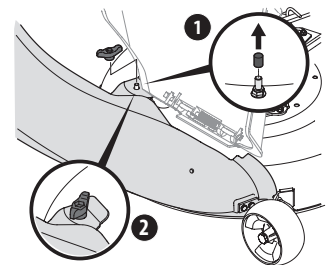

Figure 17
2. Secure the chute elbow to the deck using a wing knob (720-04122) from hardware pack 689-01419. See Figure 17.
NOTE: If present, remove the protective cap off of the mounting stud on the mowing deck as shown in the upper inset of Figure 17.